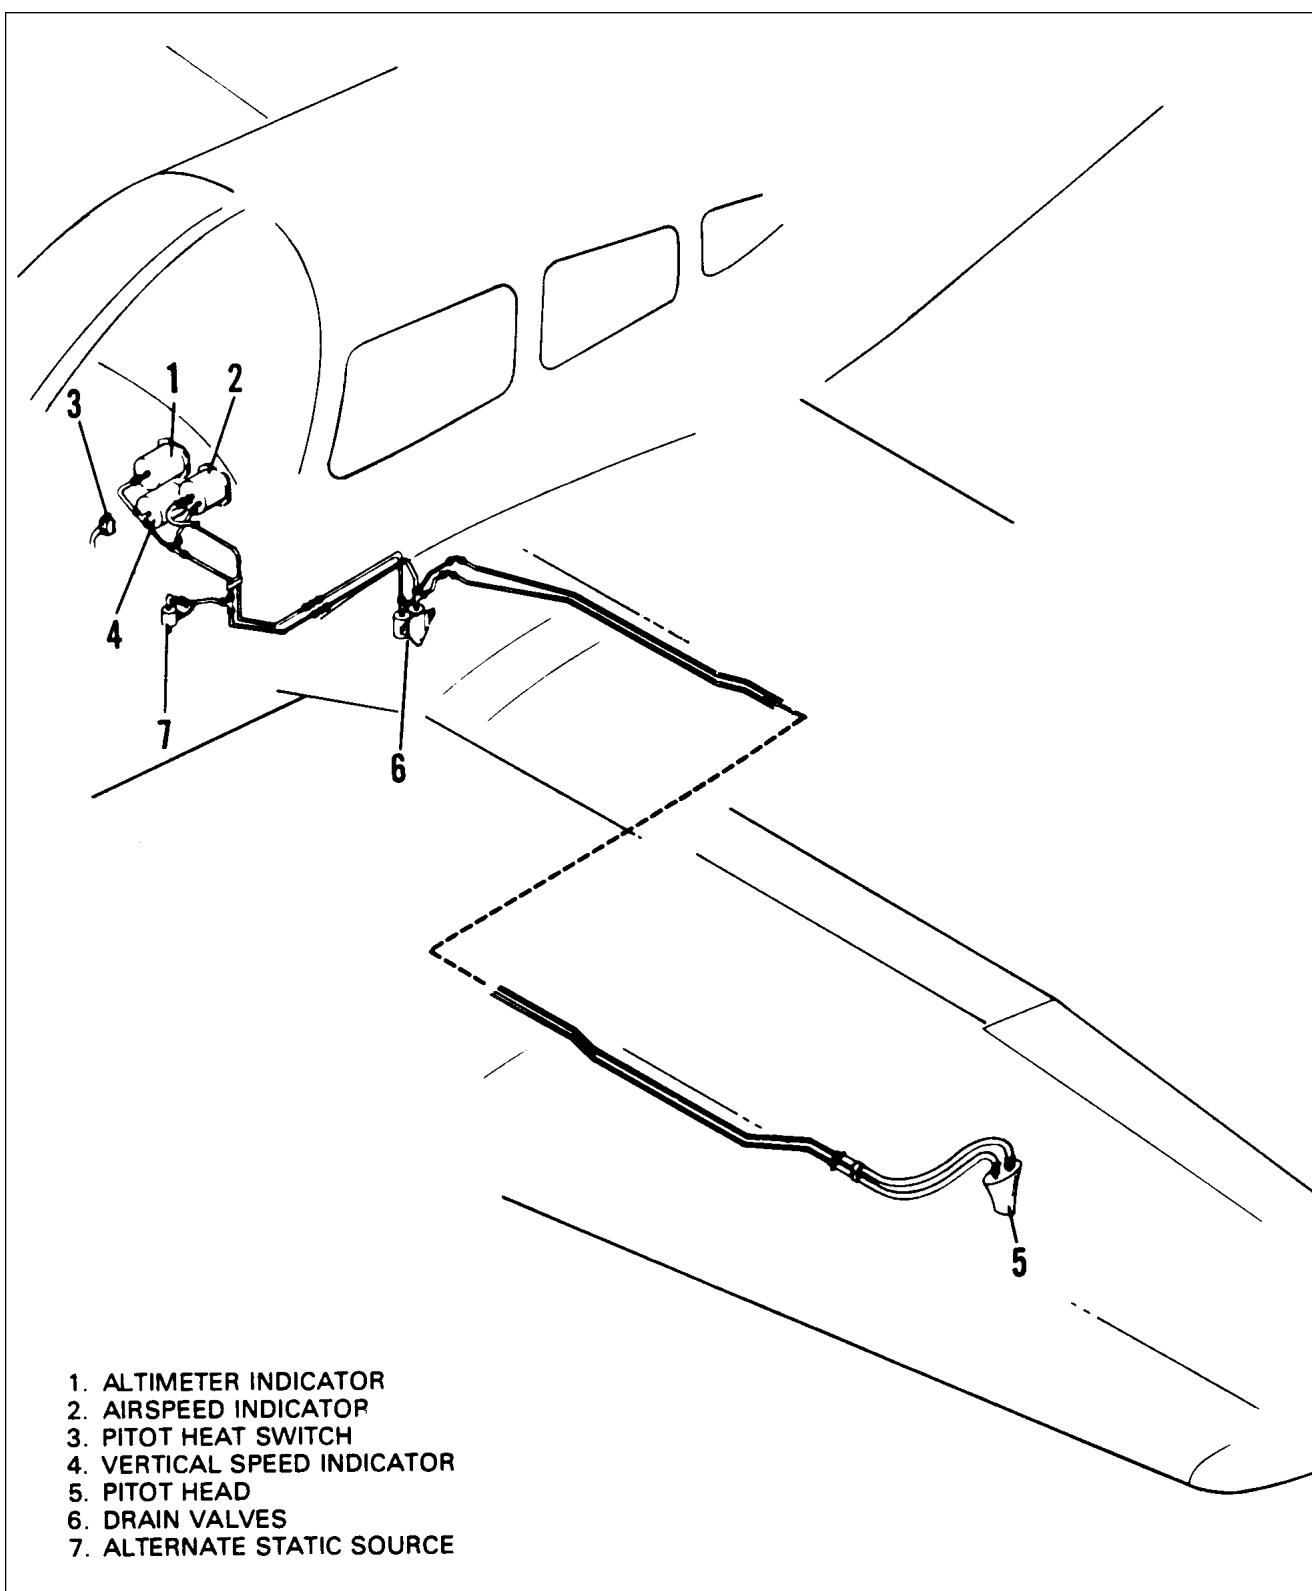

Figure 34-1. Pitot/Static System
- a. Pitot and static air sources, which supplies both pitot and static pressure for the airspeed indicator, and static pressure for the altimeter, and vertical speed indicator. (Refer to Figure 34-1.) These instruments are face mounted. Pitot heat, offered as an option on the Archer II, is standard on the Archer III.
- (1) Attitude Deviation Indicator (ADI) (Attitude Gyro).
- (2) Gyroscopic Heading Indicator or Horizontal Situation Indicator (HSI).An electrically operated auxiliary vacuum pump is also provided as a backup in the event the engine driven pump fails.
DESCRIPTION AND OPERATION (Refer to Figure 34-1)